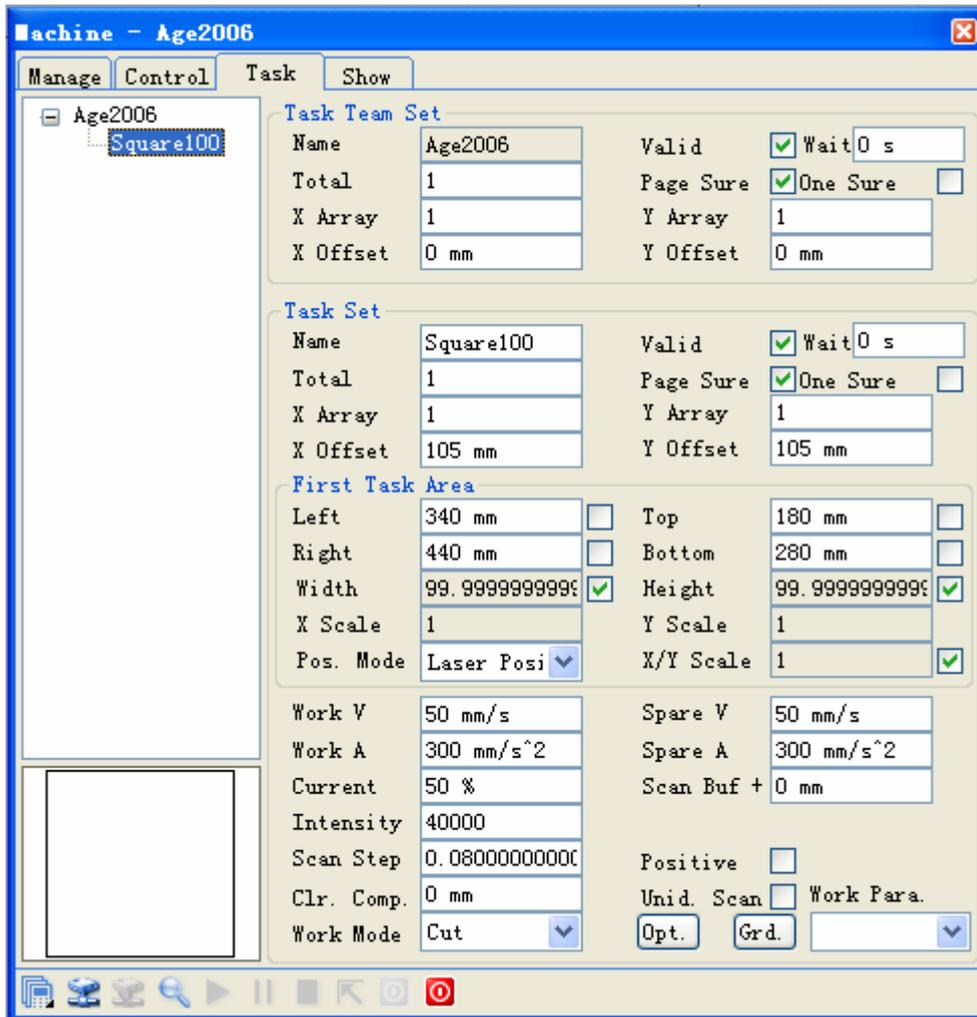

Figure 2-22 Task Dialog
- There will be a machine-mission property (See Figure 2-22) pop after adding a layer to missions. Input 0 in the left and top edit boxes (or choose Pos. Mode as "Zero") and select them in the first piece area, width and height is the size of processing, register as (A, B). Other values are default.